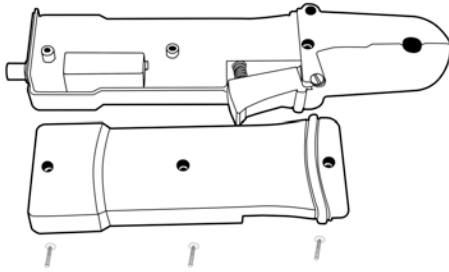

Figure 5: Battery Installation
- (1) Remove the probe from the circuit.
- (2) Open the battery compartment by loosening and removing the three screws on the back of the probe. Lift off the back cover.
- (3) Observing polarity, attach the new alkaline battery to the connector buttons and place the battery into the compartment, as illustrated in Figure 5.
- (4) Replace the back cover and lightly tighten the three cover screws.